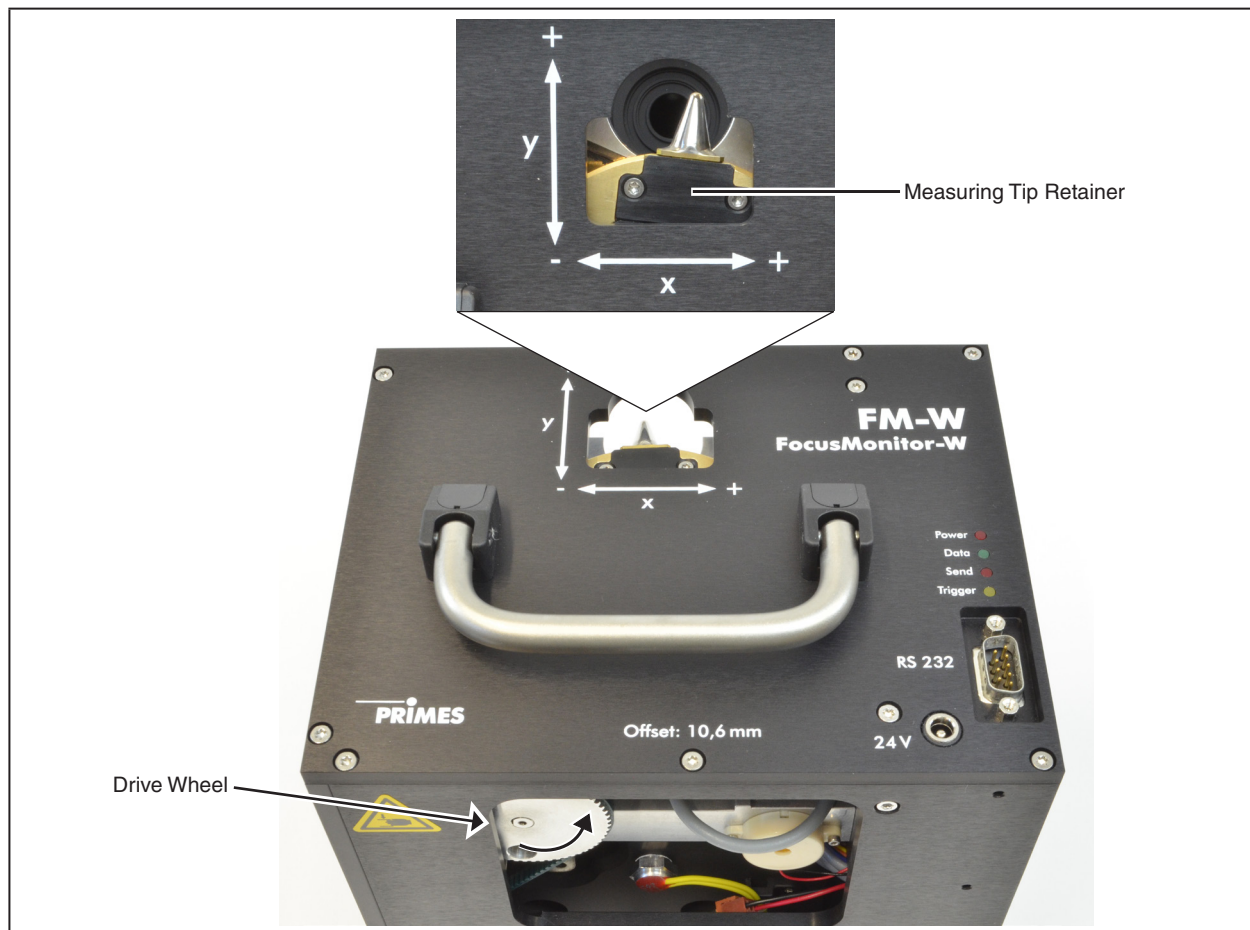

Fig. 7.1: Moving the disc into the measuring window
2. Turn the drive wheel (see Fig. 7.1) clockwise until the disc extends approx. 15 mm into the measuring window in a positive y-direction.